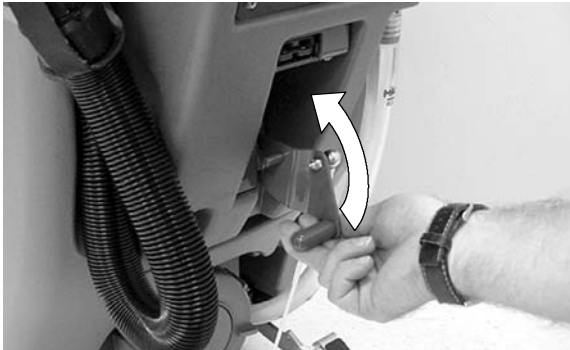

FIG. 4
2. Lift the squeegee lift lever to the upward position (Figure 4).